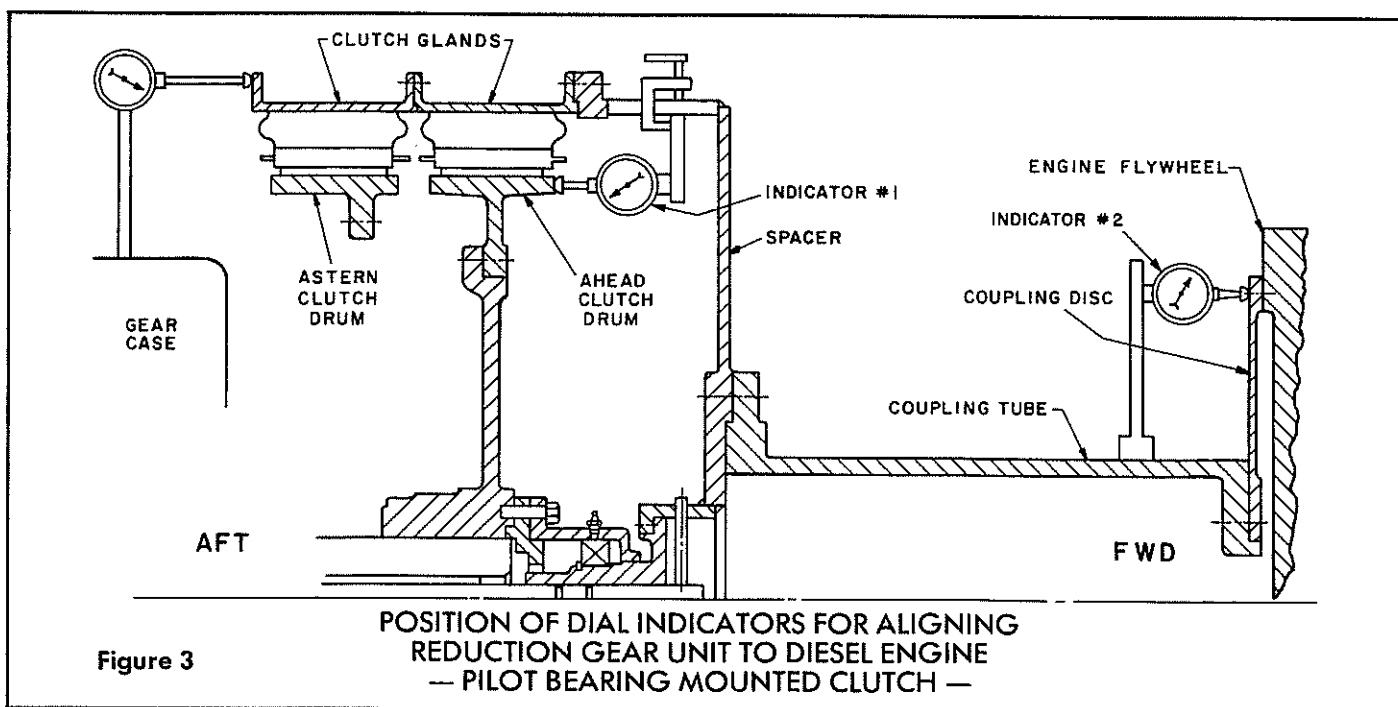

Figure 3
1. After gear is in place with gear tooth contact checks made per Falk instructions and propeller shaft alignment to gear is satisfactory with chocks, shims and gear foundation bolts made up tight, proceed with engine-to-gear alignment. See Figure 3.
7. Mount dial indicators on 34" bolt circle of engine coupling disc and on ahead clutch drum face as shown in Figure 3. Set both indicators to zero on top starting position.
NEW INSTALLATIONS* (Figure 3)